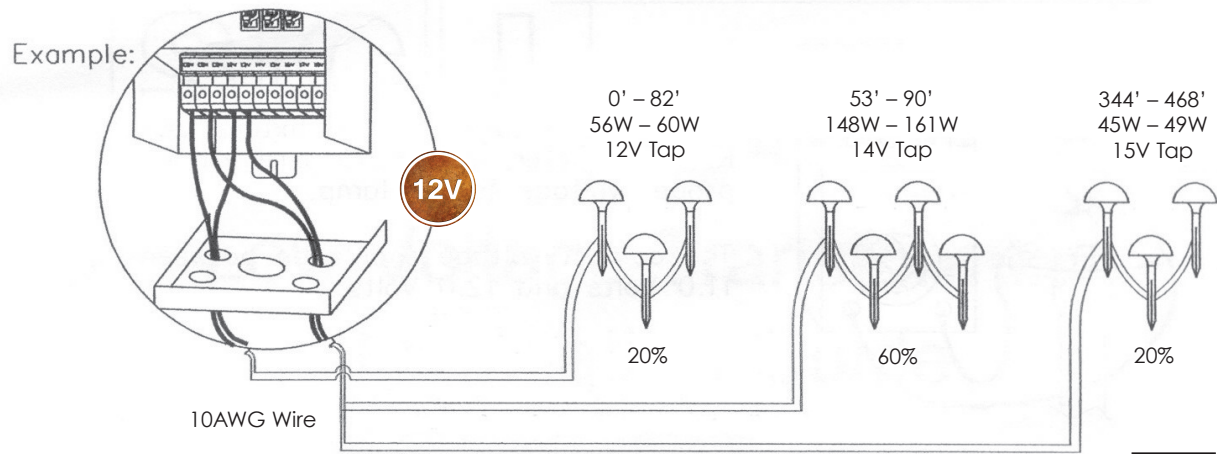

Figure 2
- CONFIGURE THE SYSTEM:** This Multi-Tap transformer is equipped with secondary circuit breakers that are connected to the COM terminal block. The primary purpose of these circuit breakers is to protect the transformer and the output wiring from over-current or short-circuit conditions. It is very important to understand and follow these instructions in order to properly drive the lights and to prevent any possible overload conditions. The tables on the last page provide the combinations of voltage taps, wiring lengths, and lamp loads that should be used. For example, if a 300W transformer tap is to be 100% loaded using a 50-foot run of 10AWG wire, the 15V tap should be used with approximately 250W of lamps. If more than one wiring run is to be used, adjust the loading for each so that their total percentage adds up to 100% as shown in Figure 2.